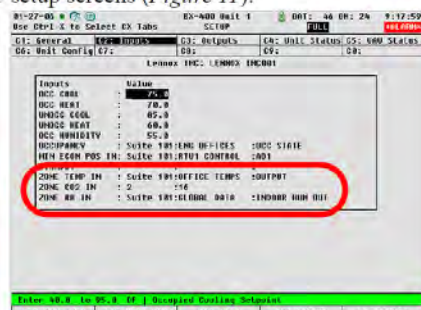

Figure 11 - Lennox IMC Setup Screens (Inputs Tab)
6. From the IMC Status Screen, press **F5** (SETUP) and then press **F2** (NEXT TAB) to move over to the Inputs tab of the Lennox IMC setup screens (Figure 11).